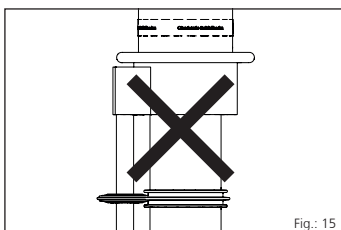

Fig.: 15
- The water barrier flange on the installation fixture may **not** be at the same height as the 3-ribbed seal of the casing pipe for reasons of space (see Fig.: 15 und 16).